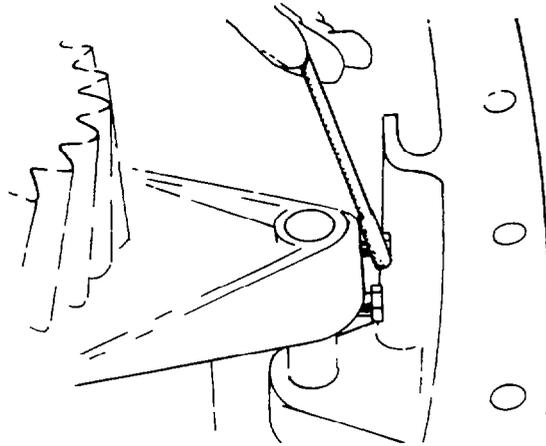

Fig. 234 — Removing Selector Shaft
- z. Remove the Hi-Lo range selector fork locating screw through the case rear opening. Turn the case to the horizontal position and remove the selector shaft from the front of the case (see fig. 234).